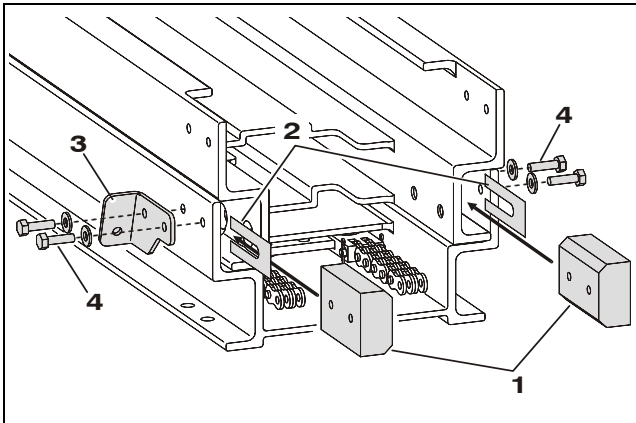

Figure 5-6. Top of Mast Section-2 - Slide Pad Installation
- e. Place two (2) sheave pin support bars, one each end of sheave pin onto outside of spacer tubes.
- g. Attach to top of mast section-3 using two (2) 3/8"-16UNC x 1/2" long socket head-countersunk-flathead cap screws, each side. Coat threads with Loctite #171 and tighten.
10. Insert slide pads into the top end mast rails between section-2 and -3, (one on each side of the mast), with beveled surface facing inward towards section-3. (Same as Figure 5-6.)